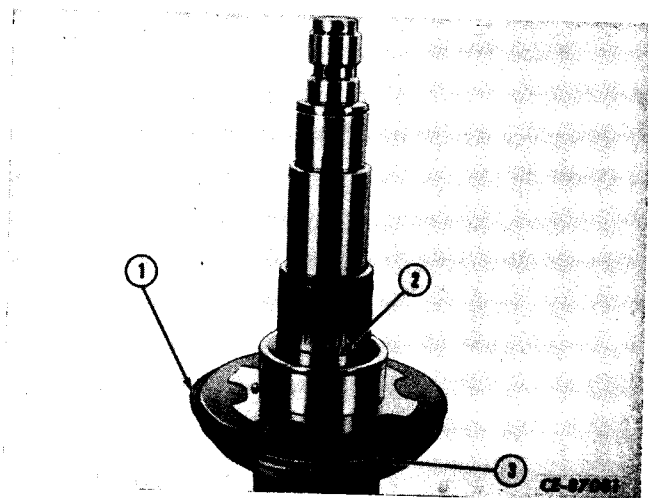

Figure 4-43
Invert shaft. Install new hook type seal ring (2, Fig. 4-43) in groove on shaft. Install new "O" ring (1) on outer diameter of separator plate. Coat both seals with heavy grease. Coat rectangular seal (3) on clutch piston with grease.